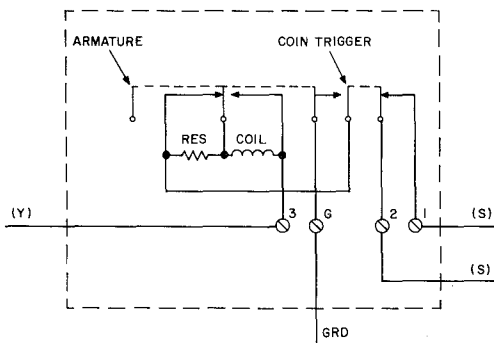

Fig. 28—Single-Coil, Slow-Release Coin Relay
**5.32** The single-coil, slow-release, coin-relay switch assembly, in addition to ground and dial-shorting contacts, has a 3-spring break-make combination which functions to short-circuit either a resistor or the relay coil as shown in Fig. 28 and as covered in 5.41.
**5.41** The slow-release feature is obtained by short-circuiting the coin-relay winding near the end of the operate stroke (Fig. 28). During the holding period the 1000-ohm resistor is substituted for the short-circuited relay coil. This protects the coin battery resistance lamps in the central office from a current surge and protects the coin-relay ground contacts from excessive arcing when they open while coin battery is still applied to the line. To prevent reoperation of the relay, the ground contacts are opened on the release stroke before the short circuit is removed from the relay coil.